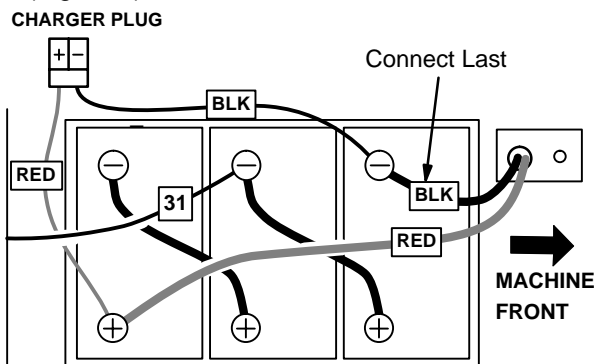

FIG. 4
5. Connect cables to battery posts as shown, RED TO POSITIVE & BLACK TO NEGATIVE (Figure 4).